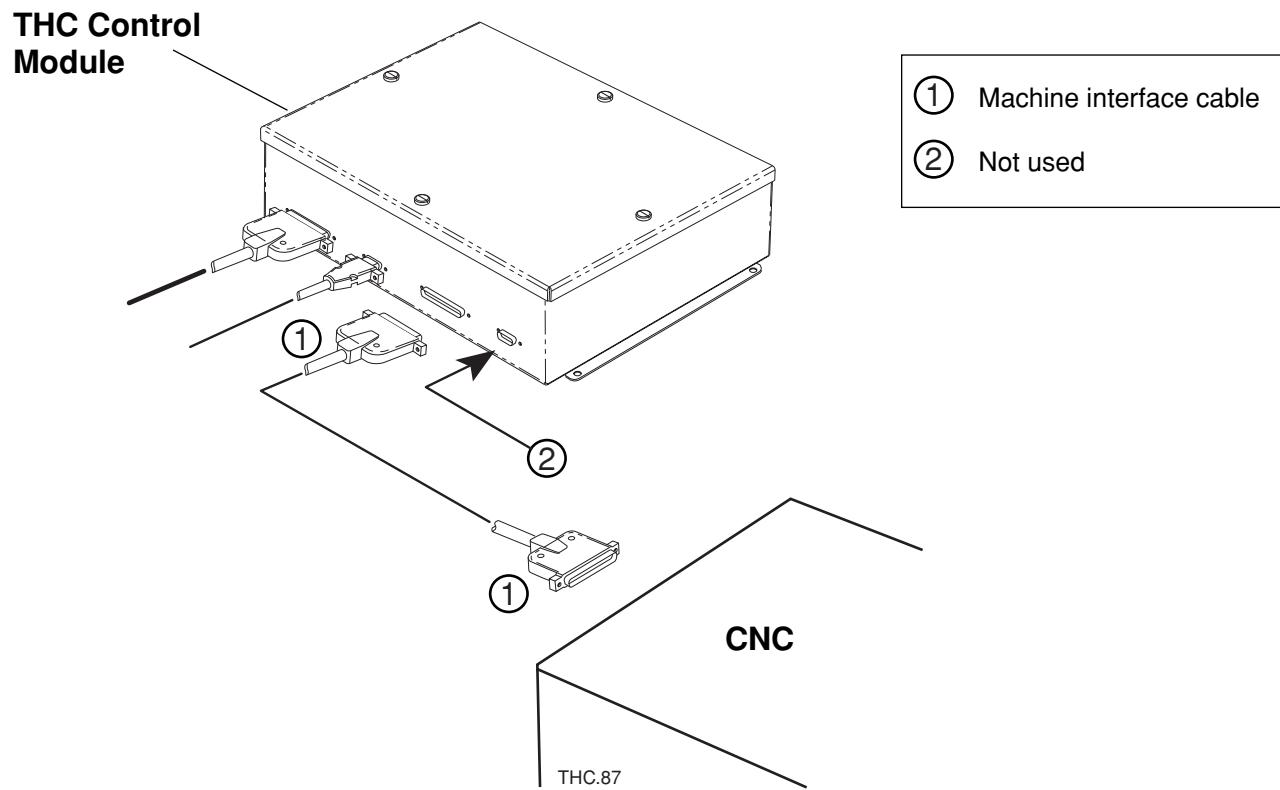

Figure 3-8 Machine interface cable
3. Install the machine interface cable as shown in Figure 3-8.